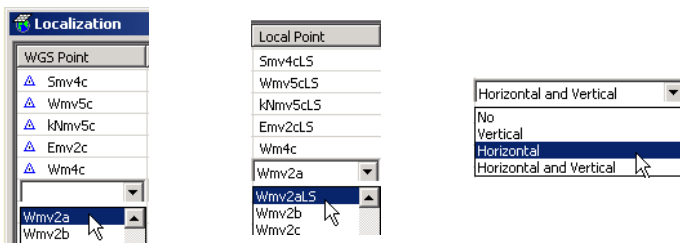

Figure D-34. Localize Point
4. Select the point 'Wmv2a' from the drop-down list in *WGS Point* column (Figure D-34).
5. Select the point 'Wmv2aLS' from the drop-down list in *Local Point* column (Figure D-34).
6. Since this point will be used only in horizontal localization, select 'Horizontal' to change the point's status (Figure D-34).